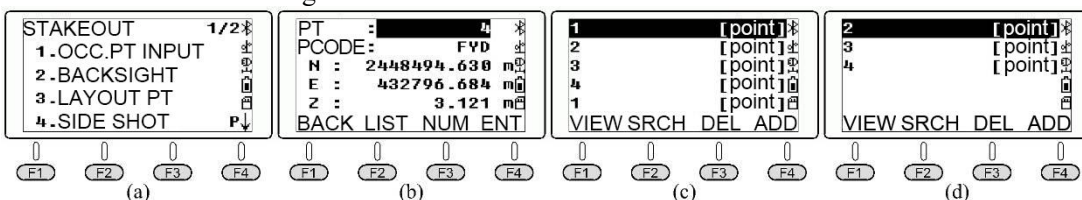

Figure 2-50 Execute the command "S.O-LAYPUT PT-LIST" to view the coordinate to check the coordinates and points' name of the current file
① Check list of point names in the current file: In the function menu on page P3 of Coordinate Measurement, press **F2** (S.O), **3** (LAYOUT PT), and **F2** (LIST) to enter the interface of list of point names [Figure 2-50(c)]. It can be found from the figure that points 1-4 in the first 4 lines are the original stakeout points of the current coordinate file, and the character "CORD" is noted on the right side. After finishing stakeout for points 1-4 in the last 4 lines, You please execute the command "REC." on the coordinates of measured points 1 to 4 and the character marked on the right is "MEAS".